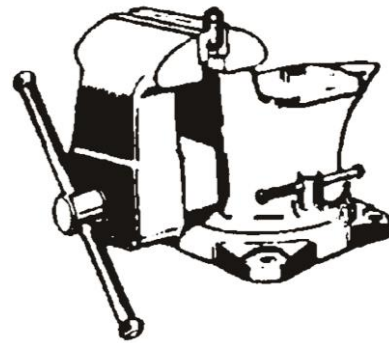

Figure 6
1. Insert the master link into the vise (Figure 6).